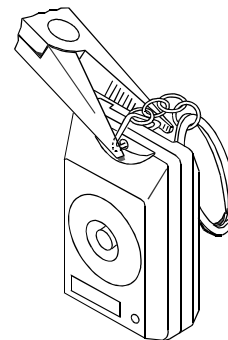

Figure 4. Key-ring Installation
- Slip the key-ring triangle through the last link of the keyring chain and install the triangle into the hole on the top of the MCT-201 (Fig. 4).